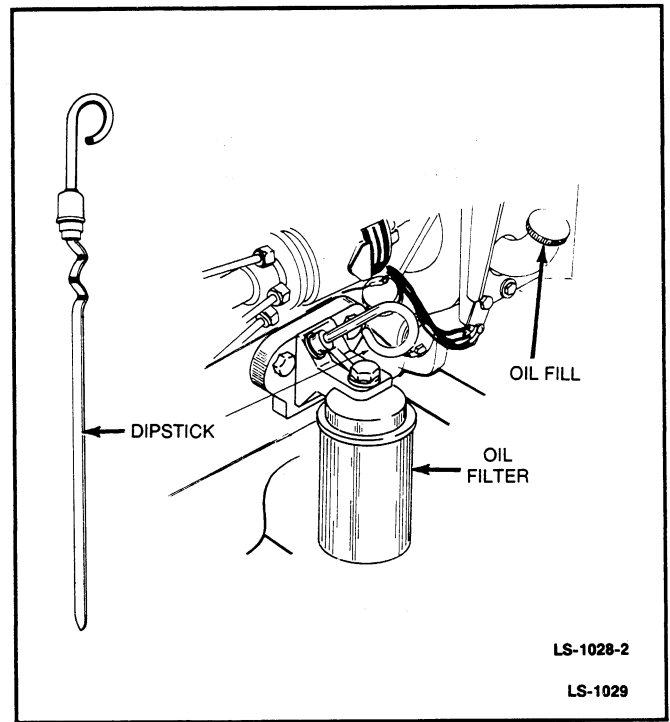

FIGURE 4-6. DIPSTICK, OIL FILTER, AND FILL CAP
Check the engine oil level during engine shutdown periods at the intervals specified in Table 4-1. The oil dipstick and oil filter are located on the same side of the engine (see Figure 4-6). The dipstick is stamped with FULL and ADD marks to indicate the level of oil in the crankcase. For accurate readings, shut off the engine and wait approximately 15 minutes before checking the oil level. This allows oil in the upper portion of the engine to drain back into the crankcase.
3. Unscrew the oil filter and discard (see Figure 4-6). Thoroughly clean filter mounting surface.